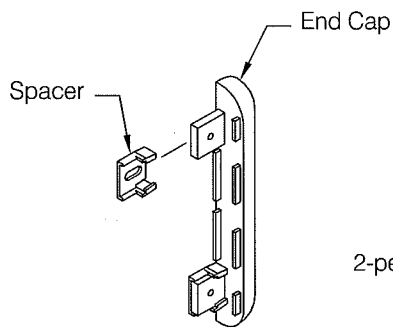
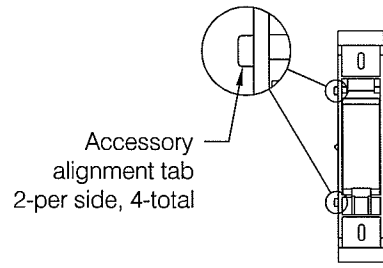
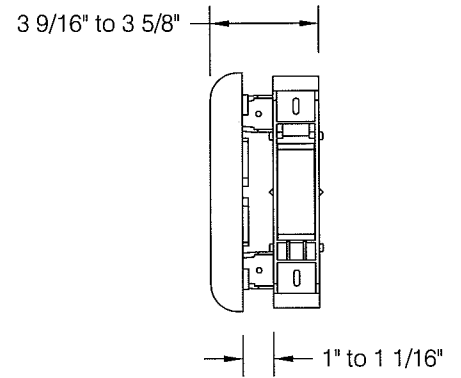

fig 4
fig 5
fig 6
Step 3: A Red-E-Clip® must be installed adjacent to each molded accessory. Begin by installing a spacer on each of the accessory mounting tabs, see **fig 4**. The Red-E-Clip® has four accessory alignment tabs used to facilitate positioning of the molded components with respect to the clip, see **fig 5**. Temporarily locate the accessory and Red-E-Clip® combination by holding them temporarily in their desired position. Remove the accessory and fasten the Red-E-Clip® in place. It is also possible to locate the clip by measuring 3 9/16" to 3 5/8" from the outer edge of the desired accessory location or 1" to 1 1/16" from the inner edge, see **fig 6**.